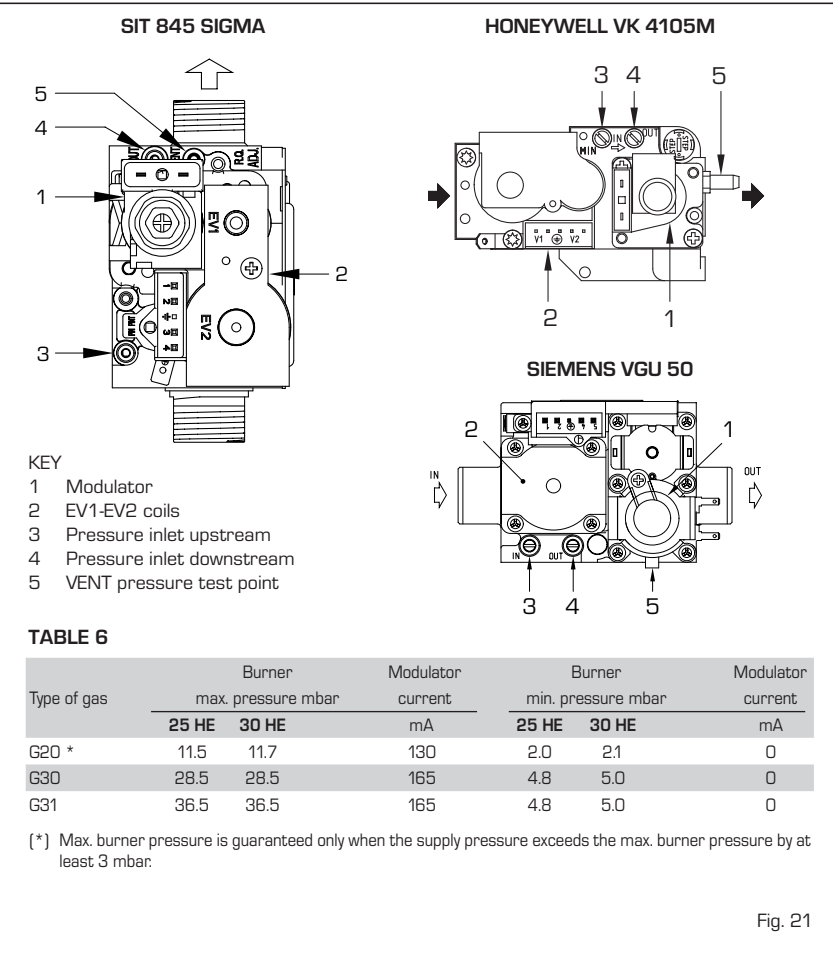

Fig. 21
The boilers are equipped standard with the SIT 845 SIGMA/HONEYWELL VK 4105M /SIEMENS VGU 50 gas valve (fig. 21). The gas valve is set at two pressure values: maximum and minimum. According to the type of gas burnt, these correspond to the values given in **Table 6**. The gas pressures at the maximum and minimum values, are factory set. Consequently they must not be altered. Only when you switch the appliance from one type of gas supply (methane) to another (butane or propane), it is permitted to alter the operating pressure.
- Disconnect the valve VENT pressure test point (5 fig. 21).**
- Remove the cap (1) from the modulator.
It is possible to completely disassemble the shell for an easy maintenance of the boiler as showed in fig. 21.